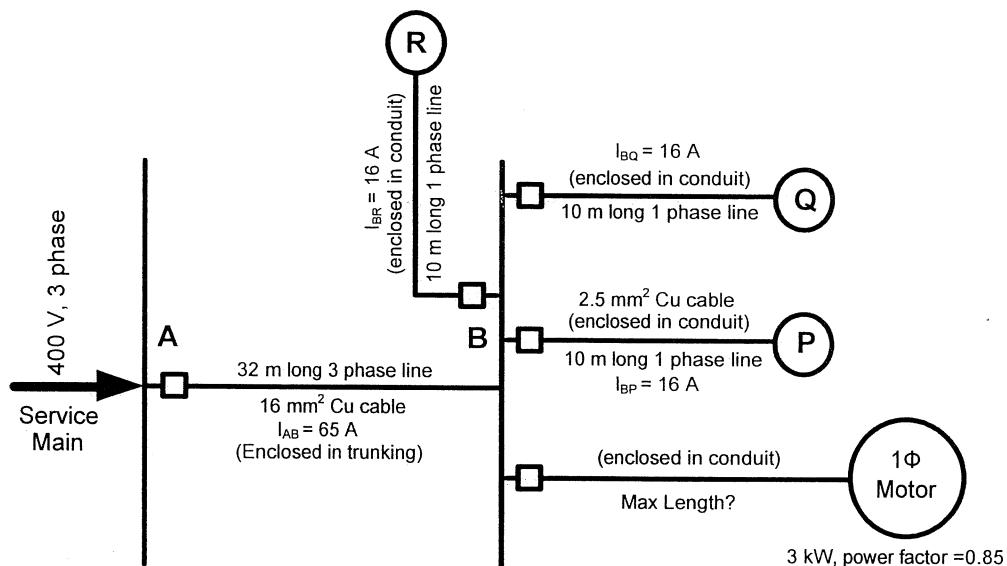

Figure Q6
6. Conceptual single line diagram of a certain installation is as shown in Figure Q6.